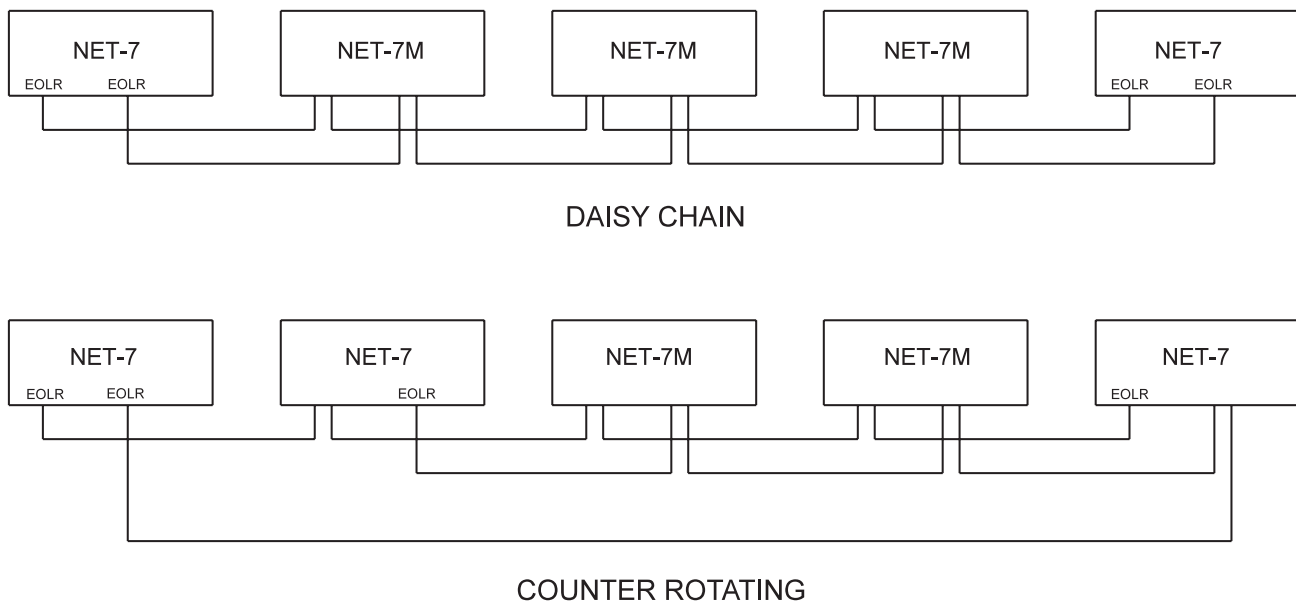

Figure 2
difference in wiring is where the end-of-line resistors are located (See Figure 2).
4. Refer to Figure 2 for the wiring diagram. Check all wiring prior to installing the NET-7M into the MOM-4. Failure to properly wire the NET-7M can cause damage to the board.
7. Refer to Figure 2 for the wiring diagram. Connect the network wires to TB4 on the PSR-1 as shown.